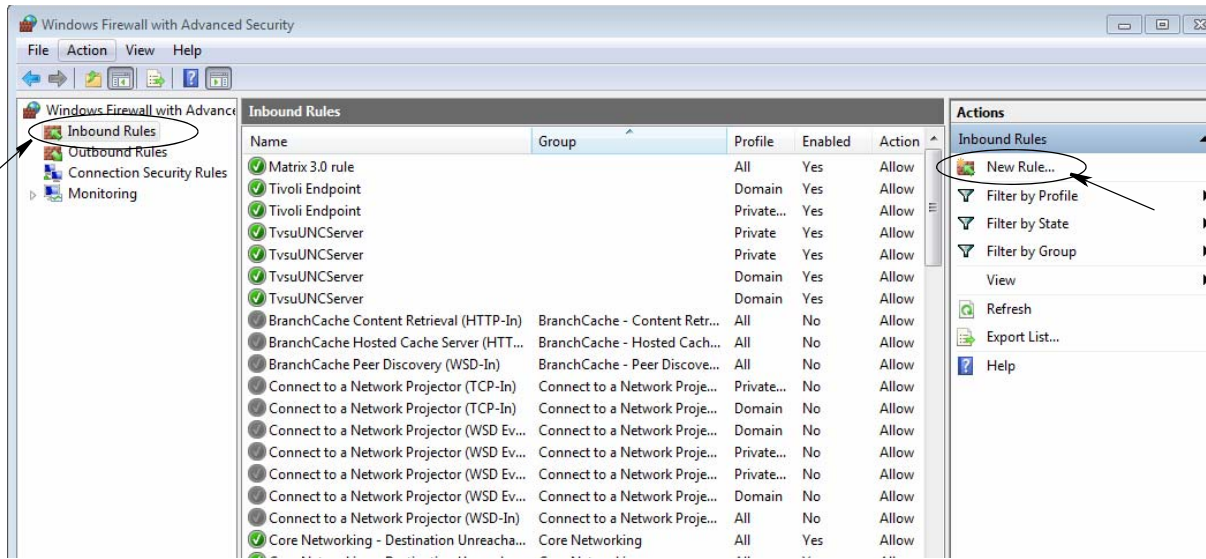

FIG. 40
- In the left pane, click on Inbound Rules, then in the right pane, click New Rule (FIG. 40).